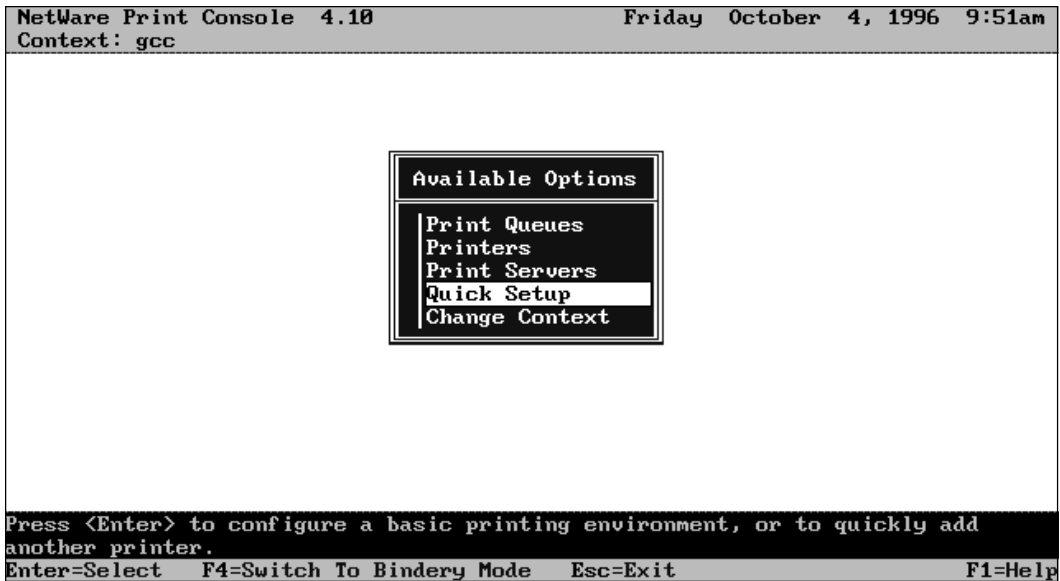

Figure 3. Choosing Quick Setup from PCONSOLE's opening screen.
4. Choose **Quick Setup** and press Enter (*see figure 3*).